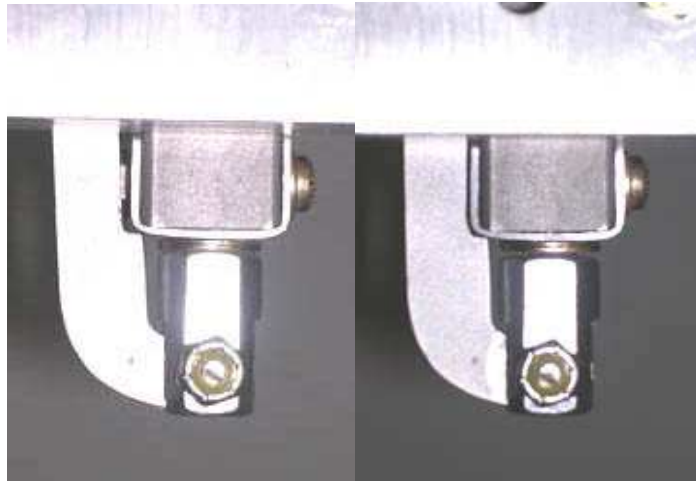

Figure 1.3a: Not Closed (bad)
- (4) With the camera mount loosely mounted on the skid, adjust the Torque Arm to the proper length for the chosen clamp positions (see D. Torque Arm, page 404).
- (5) Note that the clamps tighten with a counter-clockwise turn. Each clamp handle is stepped to indicate the correct clamping strength. When the step of the handle can sit flush with the clamp body, the clamp is adequately secured. Do not tighten beyond this point. Figures 1.3a and 1.3b show the clamp handle before and after proper tightening.